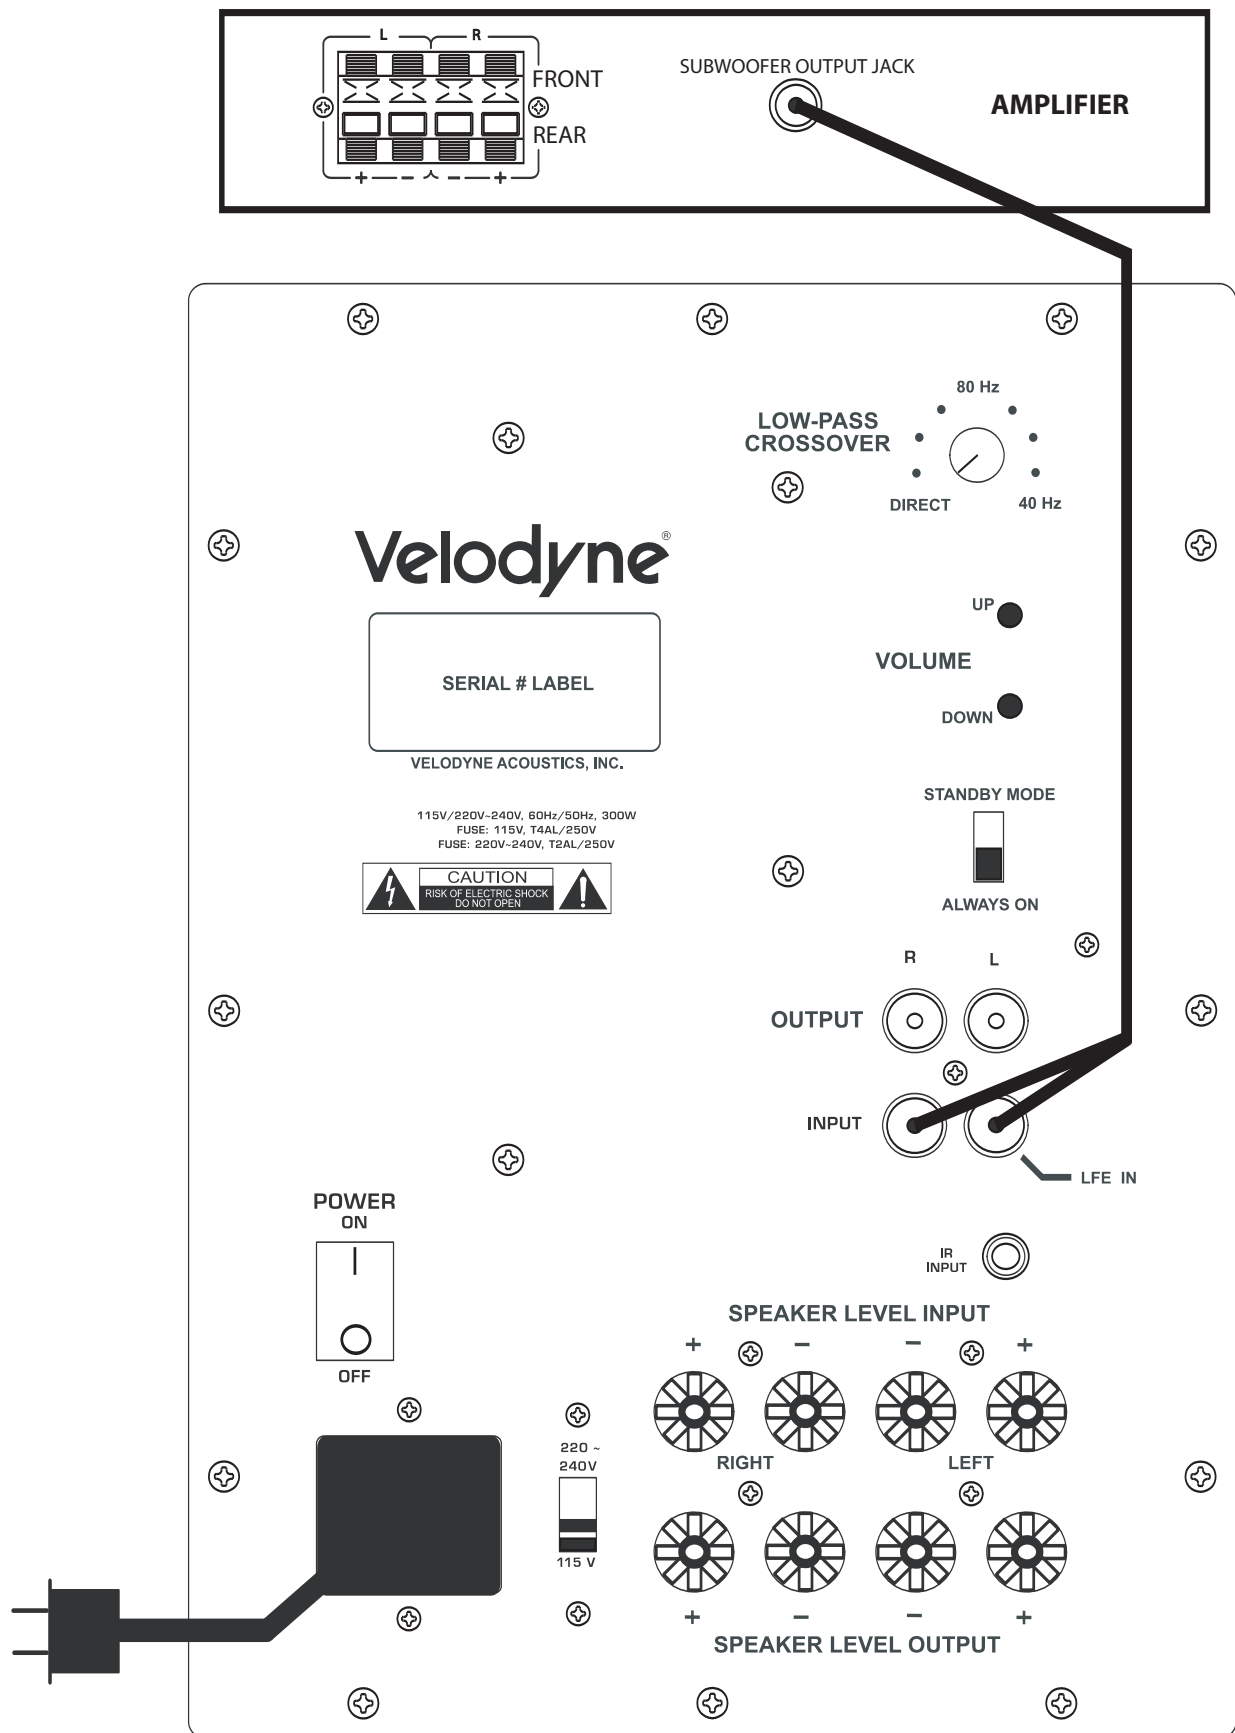
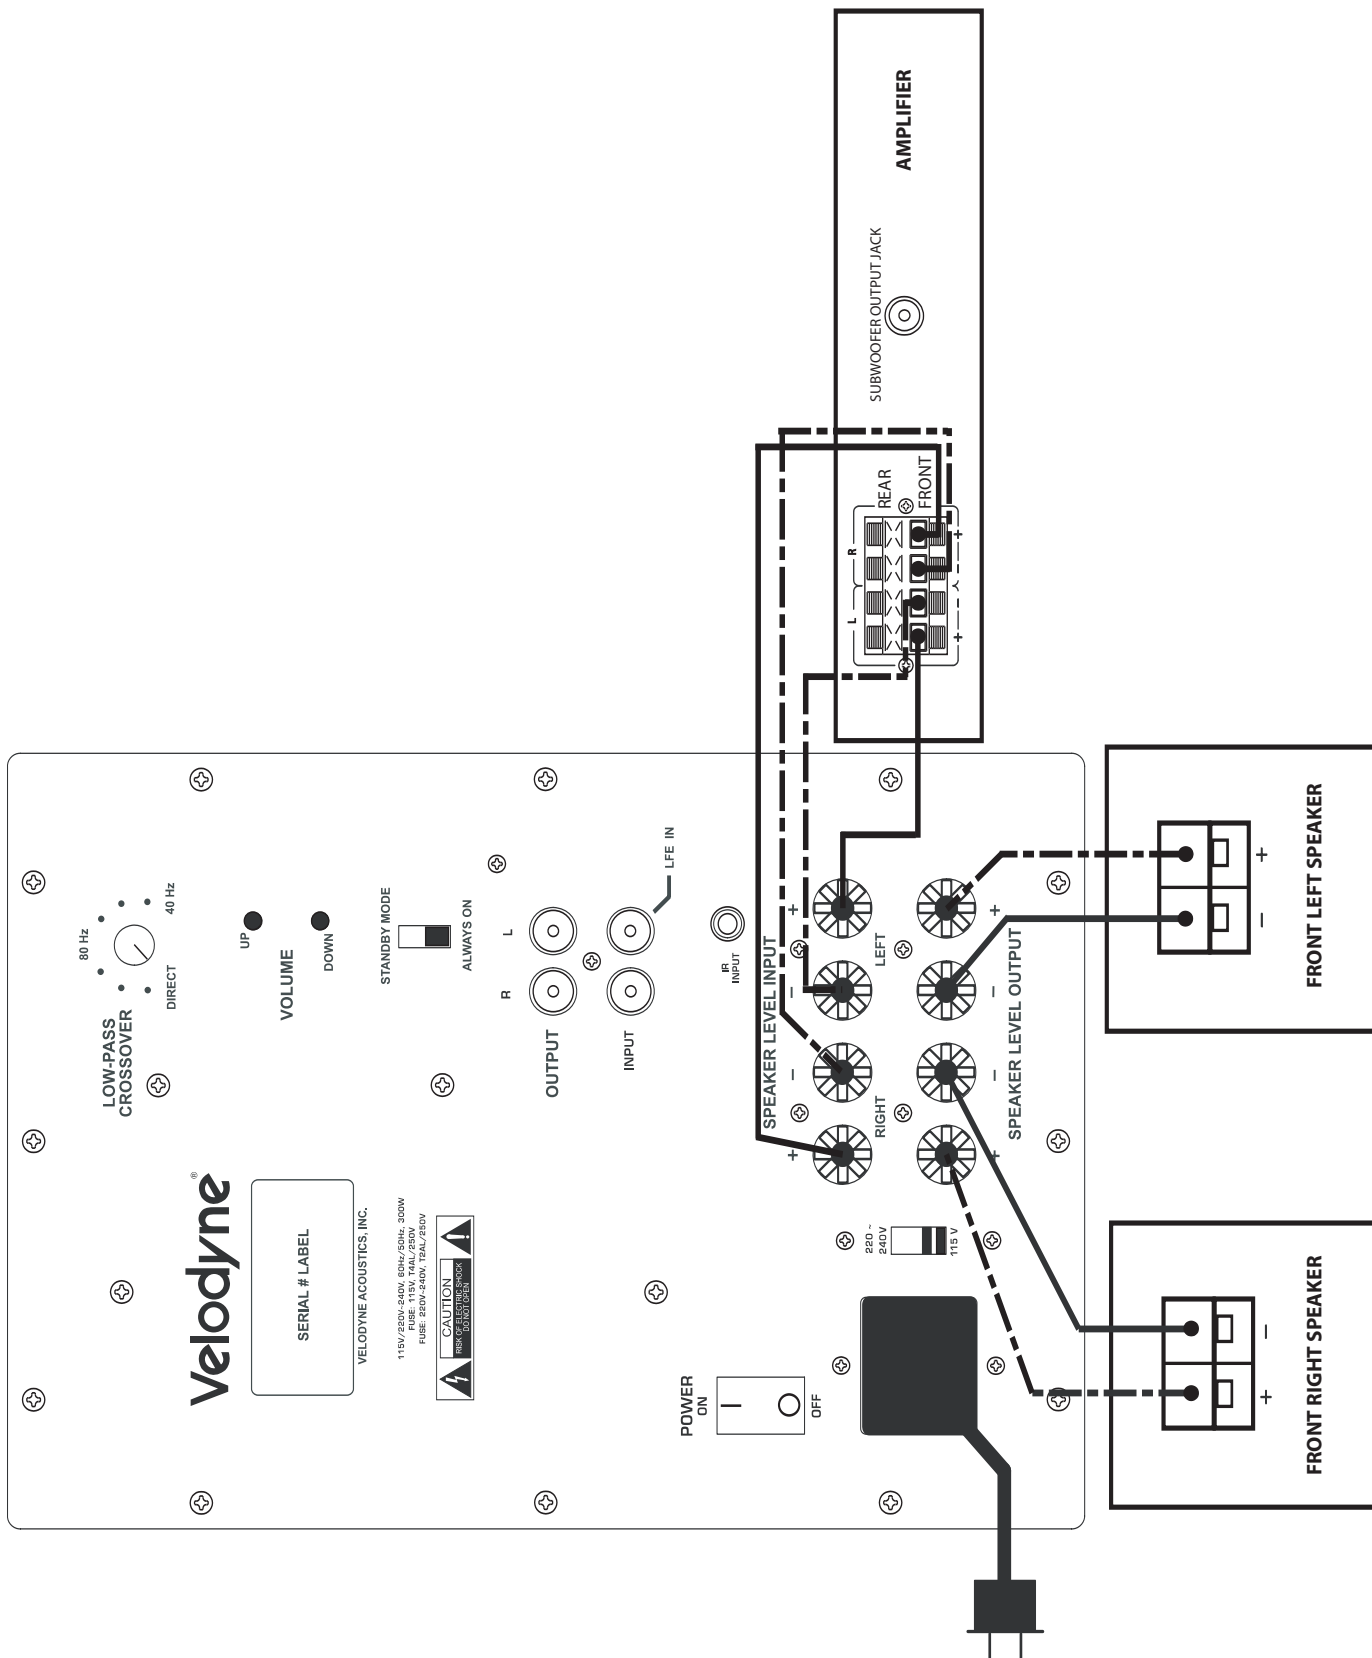

Figure 2a. Line-Level Subwoofer Connection Diagram
Figure 2b. Speaker-Level Subwoofer Connection Diagram
- 1) If using line level jacks, BOTH THE LEFT AND RIGHT INPUT SHOULD ALWAYS BE USED – never use just the left or just the right input. If using line level connections from a preamp or signal processor, use both Left and Right inputs from your preprocessor or preamp and connect them to the Left and Right inputs on your subwoofer. (See figure 2a on page 10.)
- 2) If using a receiver with LFE out, be sure the LFE channel is sending adequate signal to the subwoofer. The subwoofer's default volume setting is 30 on a 1-80 scale (roughly 1/3 volume). Adjust the LFE channel on your receiver or processor to achieve the desired bass output. See your receiver or processor's owner's manual for more information. (See figure 2b on page 11.)
(Refer to Figure 2a Line-Level Subwoofer Connection Diagram and Figure 2b Speaker-Level Subwoofer Connection Diagram, pages 10 and 11 for connection diagrams.)